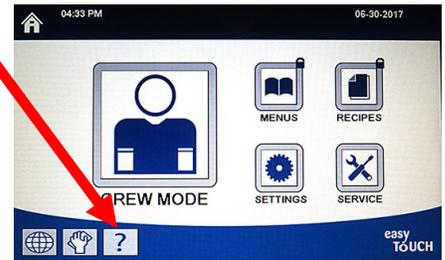

Figure 8
- Press the **?** button (see Figure 8).